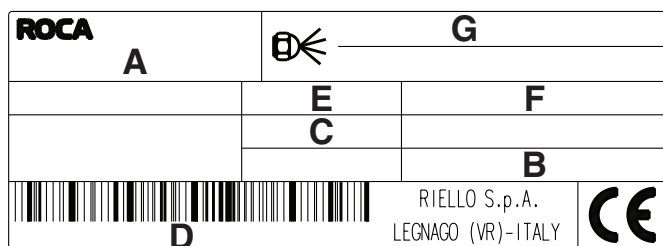

Fig. 5
- the model (see **A** in Fig. 5) and type of burner (**B**);